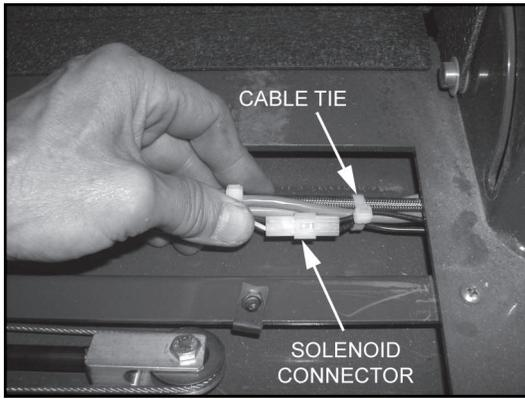

FIGURE 3-32
11. Refer to **Figure 3-32**. Disconnect solenoid connector.